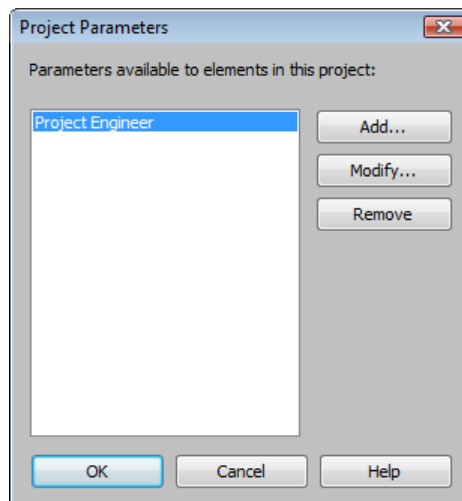

Figure 3-41 The Project Parameters dialog box
10. Choose the **OK** button in the **Parameter Properties** dialog box; the **Project Parameters** dialog box is displayed, as shown in Figure 3-41.